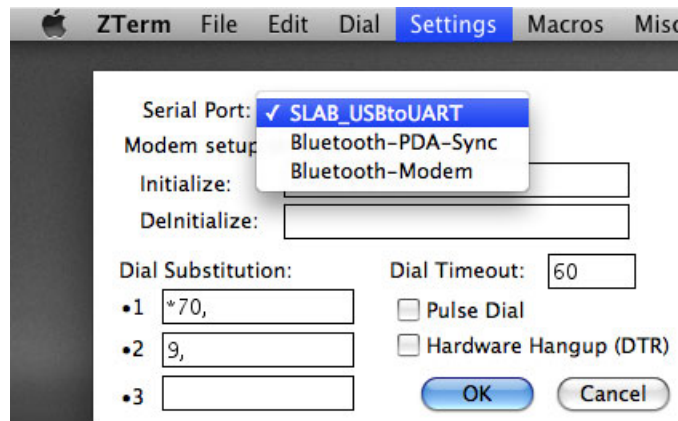

Figure 4. Modem Configuration
2. Start Zterm and configure the modem by selecting Settings-> Modem Preferences from the menu and then selecting the desired serial port as shown in Figure 4.